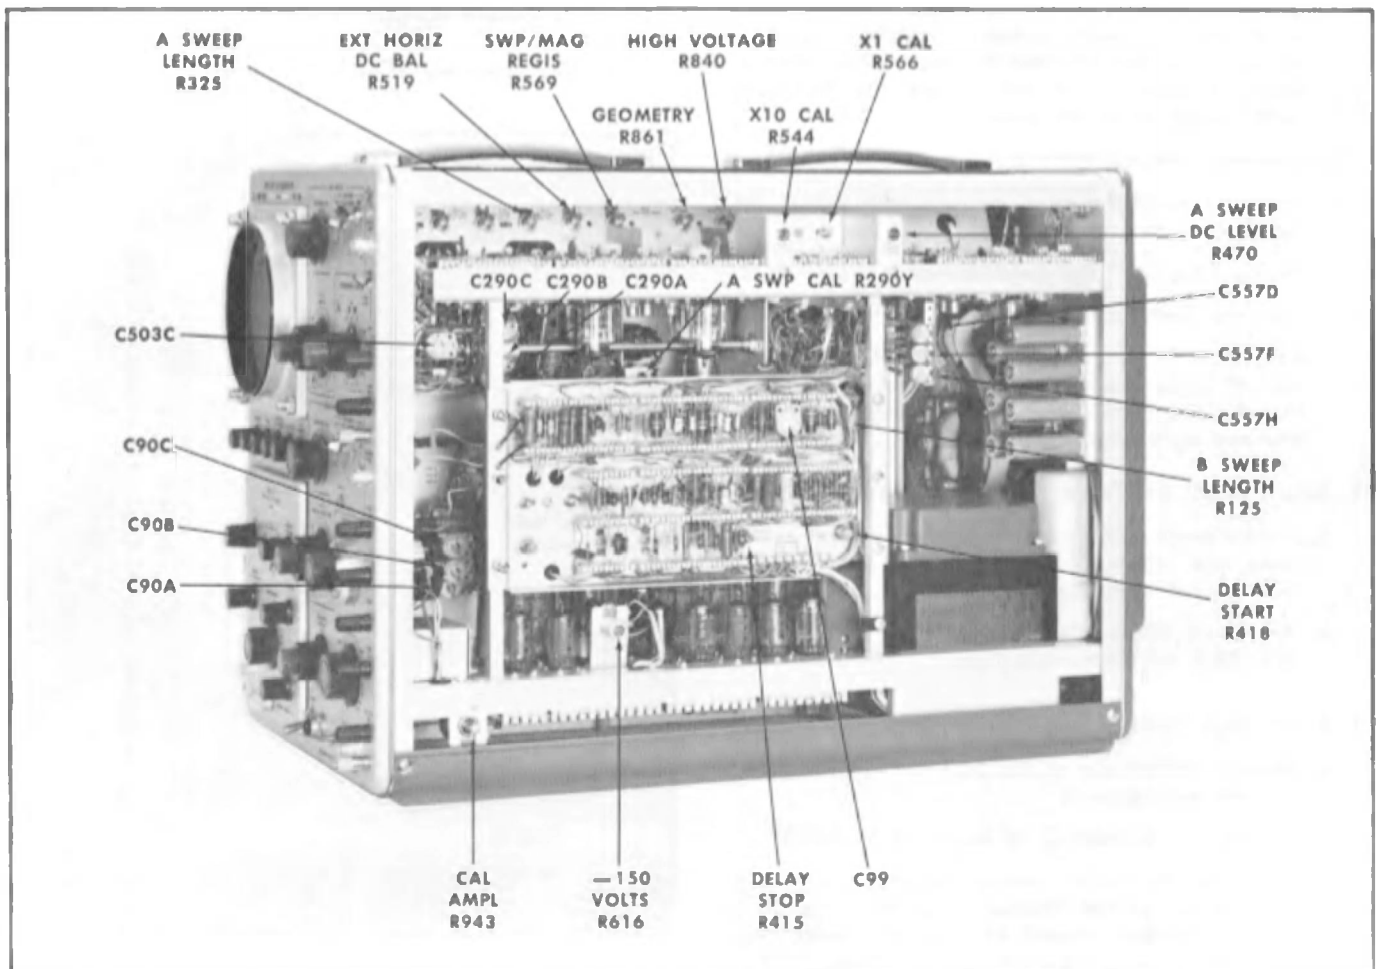

Fig. 5-2. Calibration adjustment locations.
- c. If necessary, adjust −150 VOLTS R616 (see Fig. 5-2) so all power supply voltages are within tolerance.
- b. Adjust the HIGH VOLTAGE R840 (see Fig. 5-2) for a —1850 voltmeter indication.
- Adjust CAL AMPL R943 (see Fig. 5-2) for a voltmeter reading of exactly 100 volts.
- Adjust GEOMETRY R861 (see Fig. 5-2) for the straightest possible vertical marker-lines running parallel to